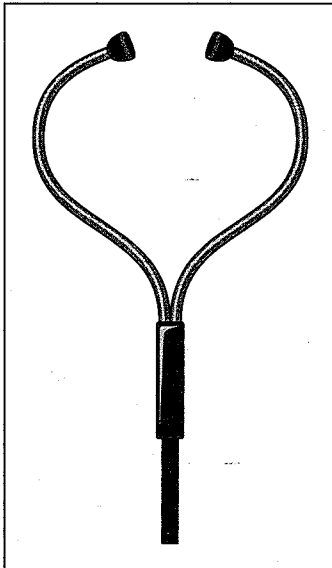

Figure 20-1:
- ✔ **If you hear an unlocatable sound,** get an old stethoscope from a medical supply house or ask your family doctor. As shown in Figure 20-1, take off the rubber disc and insert a piece of tubing in its place (about 1½ inches will do). Then put the plugs in your ears, run the engine, and move the tube end of the stethoscope around the hood area. The stethoscope amplifies the sound as you near the part that's causing it.